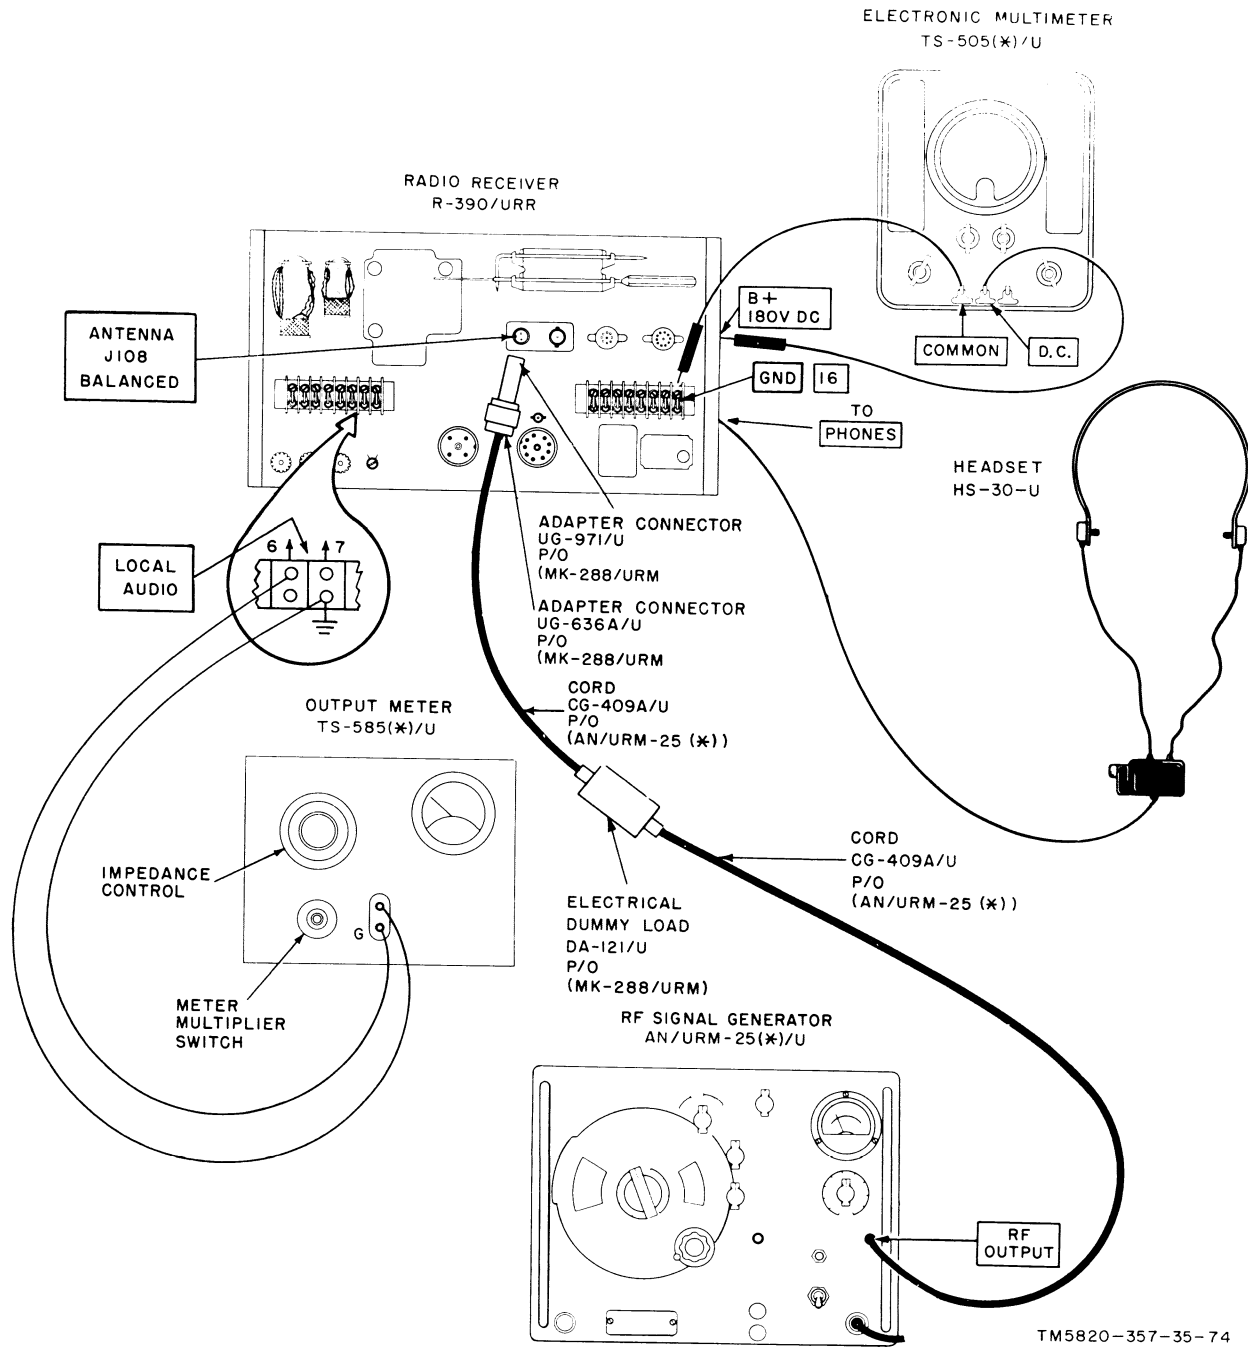

Figure 49. Sensitivity test setup.
Sensitivity Test (fig. 49)
b. *Test Connections and Conditions.* Connect the equipment as shown in figure 49. Do not connect the TS-505(*)/U until the test procedure calls for it.